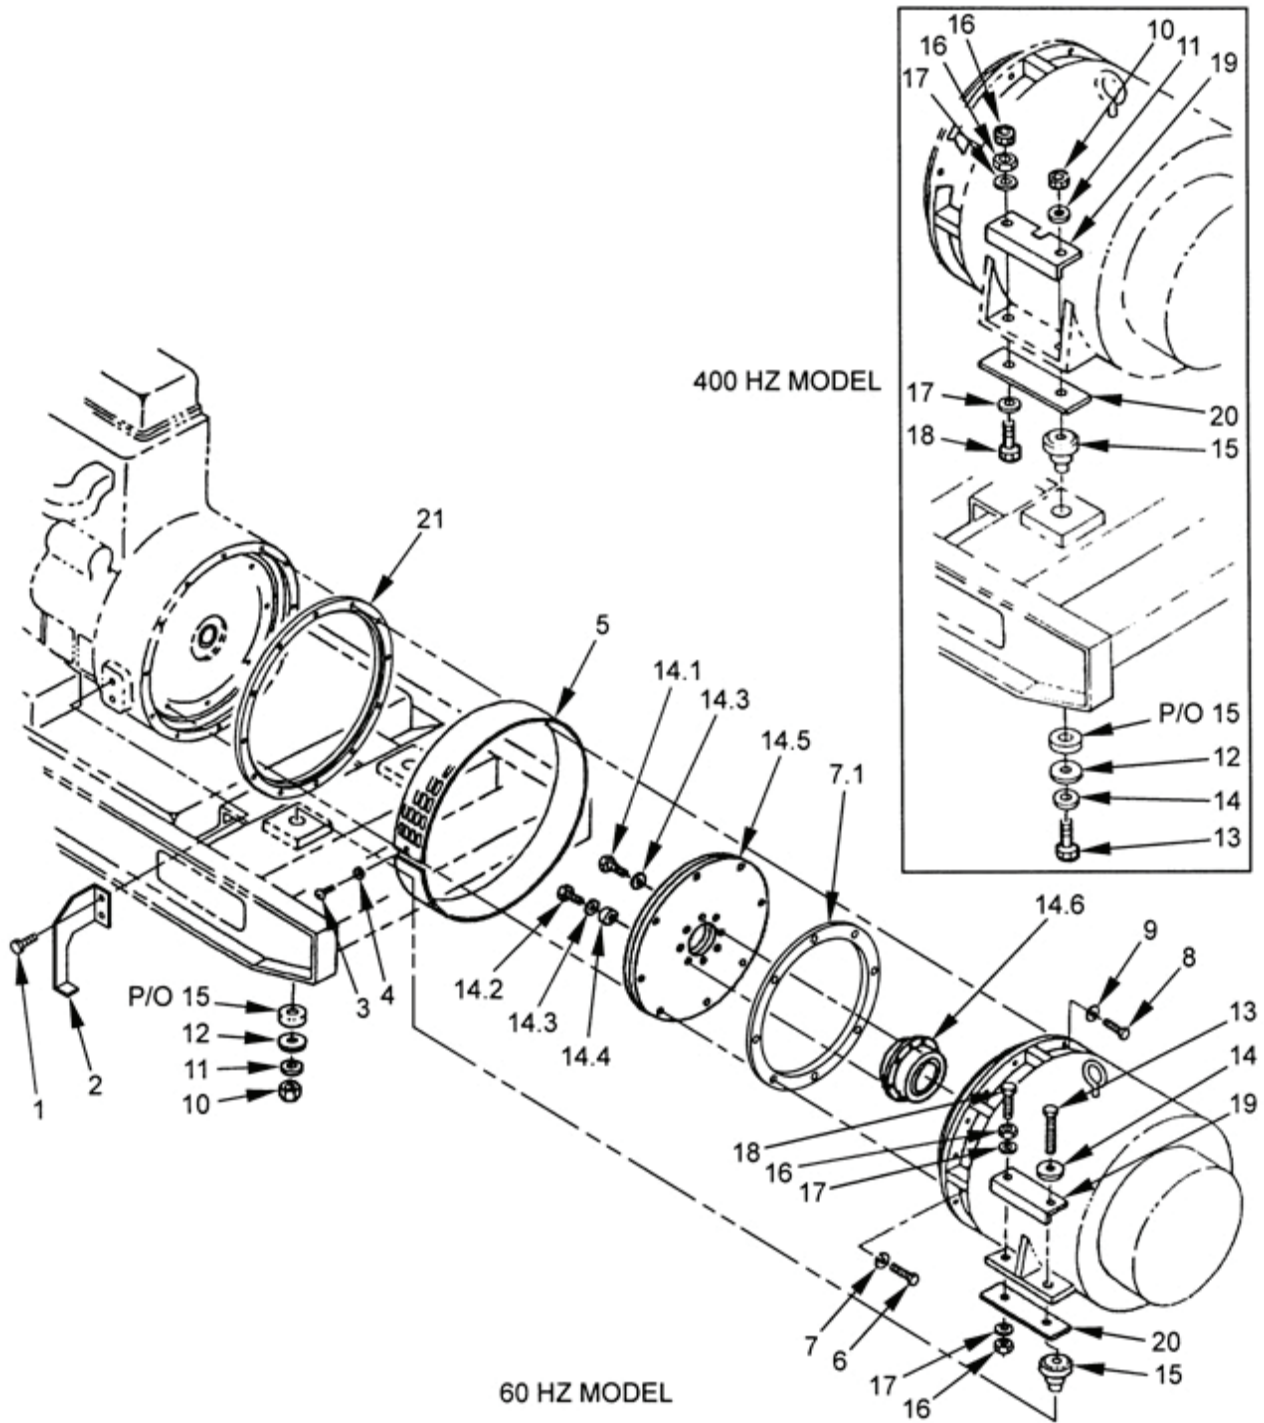

Figure 4-9. Generator Assembly.
- d. Loosen bolts (1, Figure 4-9) and lower engine support brackets (2) to rest on skid base. Tighten bolts. If necessary, place wooden shims under brackets to ensure contact with skid base.
- a. Position generator shock mounts (15, Figure 4-9) in skid base.
- b. Install angles (19) and plates (20) on generator with bolts (18), washers (17), and nuts (16).
- (1) Remove bolts (14.1 and 14.2), washers (14.3), spacers (14.4), and drive discs (14.5) from drive hub (14.6).
- (2) Place inertia ring (7.1) on shaft just inside drive hub (14.6).